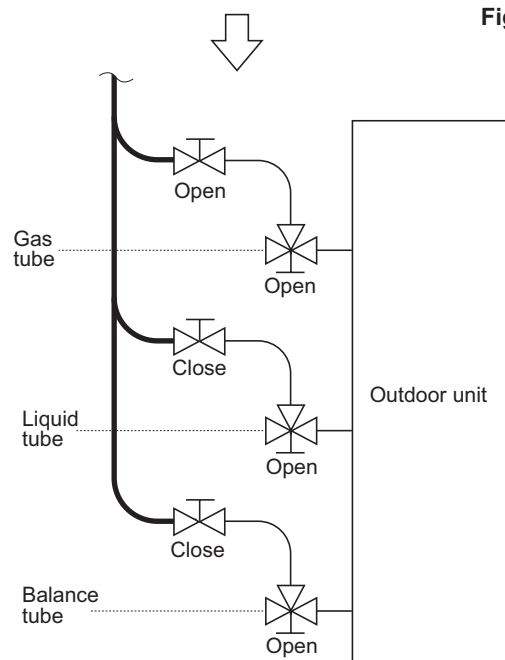

Fig. 2-258
- If the additional refrigerant charge amount cannot be charged at once, charge the remaining refrigerant in liquid form by using the gas tube service valve with the system in cooling operation mode at the time of test run. (Fig. 2-258)